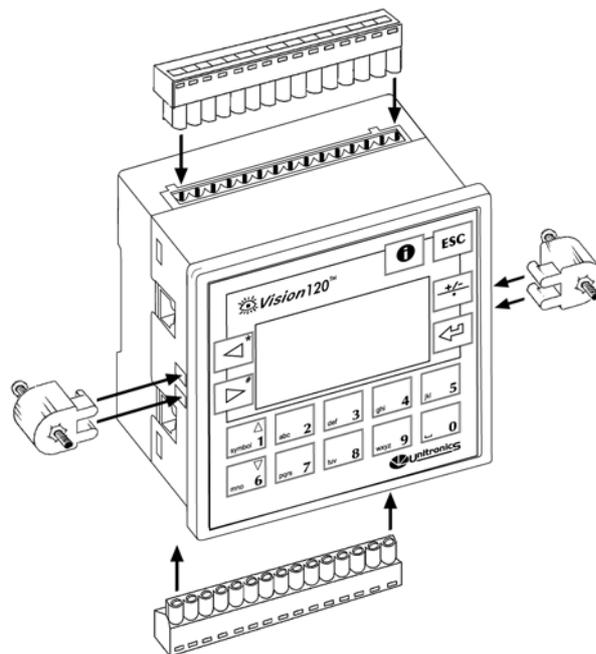

Figure 2. Connectors and Mounting Brackets
Before you begin installation procedures, check the contents of the controller kit. Standard kits contain the controller, green plastic plug-in connectors, and 2 black plastic mounting brackets, each with a screw inserted for panel mounting. These elements are illustrated in Figure 2. The kit also contains a black seal, used for panel-mounting the controller; a CD-ROM containing VisiLogic software, used to program the controller, a technical specification sheet, and a programming communication cable. Kits comprising CANbus-ready models also contain a green plastic CANbus plug-in connector. These items are not pictured in Figure 2.
4. Push the two black plastic mounting brackets into their slots on the sides of the controller as shown in Figure 2 on page 9.